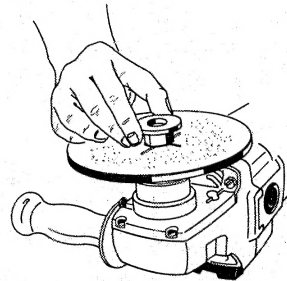

Fig. 7
- 2) Screw the Clamp Washer PARTIALLY onto the spindle. (Fig. 7).